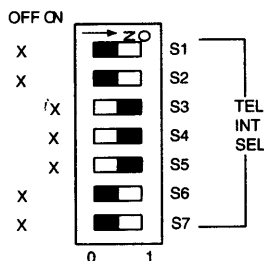

Figure 5-1: Loop Start Telephone Selector Switch
2. Move the dip switches on the module to the position shown in Figure 5-1 below. Use the tip of a pen or other pointed instrument to move the switches.